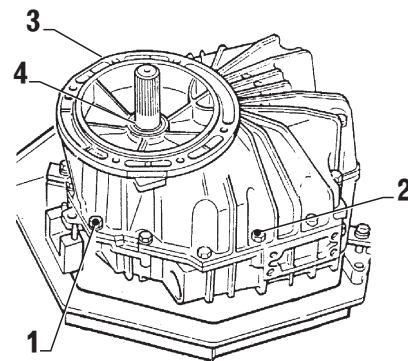

FIG. 6-1b
Loosen and remove all hex head bolts and lock washers (item 2 and 3, Fig. 6-1b). Using a plastic hammer slightly top the split line of the case halves to break the seal. Then remove the input side of the housing.
Only transmission type ZF 63 IV, $i=2.0$ and $i=2.5$. First remove radial shaft seal ring (item 4, Fig. 6-1b) to remove the housing half.